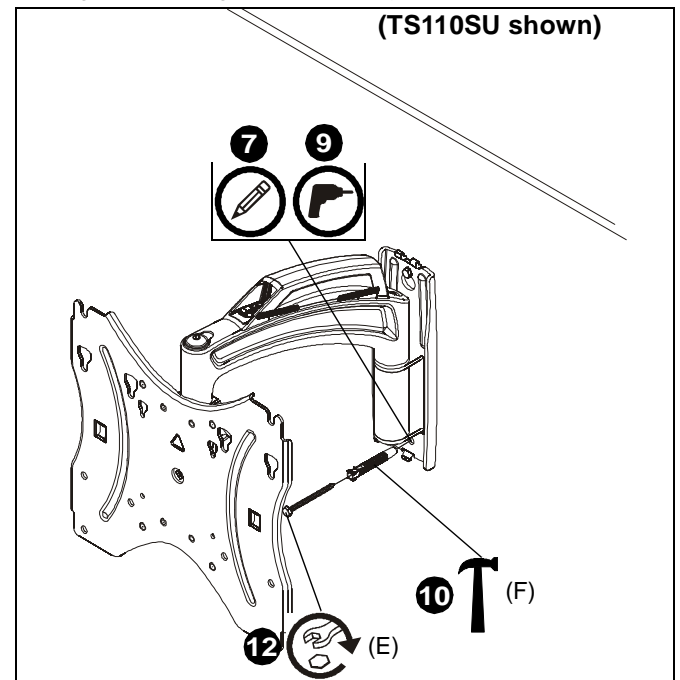

Figure 6
7. Mark hole at lower mounting hole location. (See Figure 6)
8. Remove main assembly (H) from wall.
9. Drill 8mm hole at marked location. (See Figure 6)
10. Install remaining concrete anchor (F) into drilled hole. (See Figure 6)
11. Hang main assembly (H) back onto wall.
12. Install remaining 1/4 x 2 1/2" lag bolt (E) into concrete anchor (F) to secure mount to wall. (See Figure 6)
13. Tighten both lag bolts (E) to fully secure mount to wall.